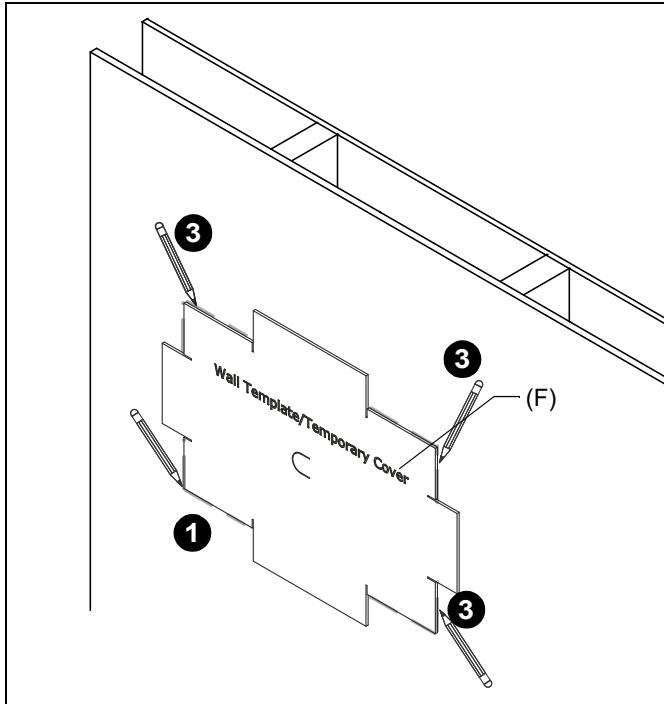

Figure 1
1. Using a level, draw a horizontal line at the lower edge of the install site. (See Figure 1)
3. Using the line drawn in Step 1 as lower edge and placing between studs, use the enclosed template (F) to draw lines around corners of template, and connect lines on bottom, top and sides. (See Figure 1)